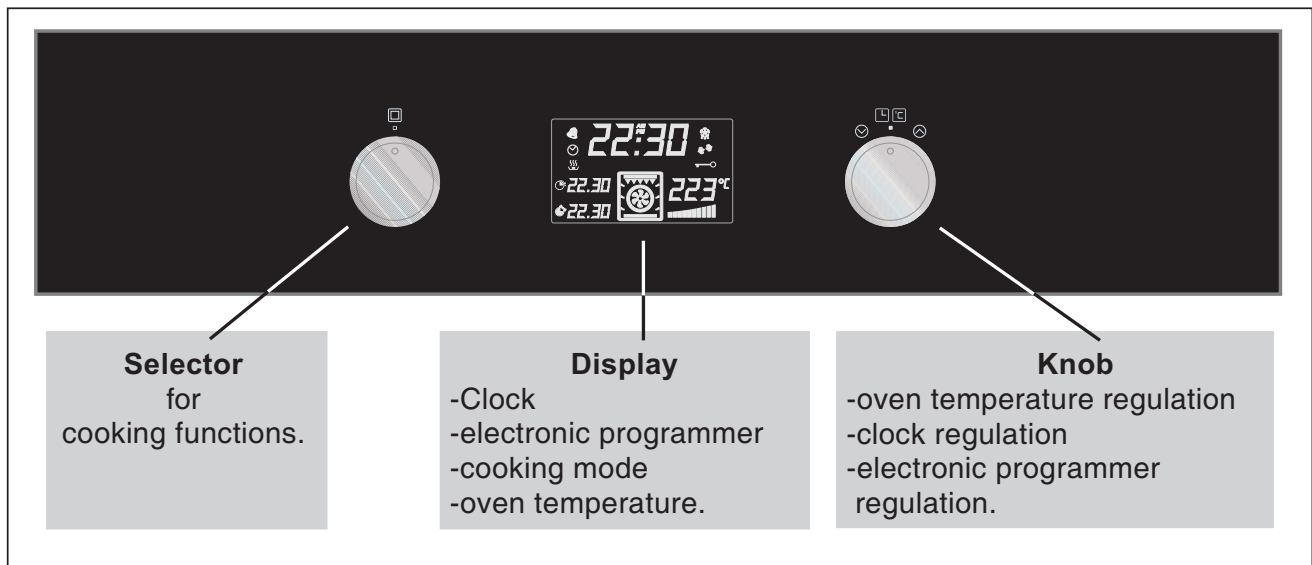
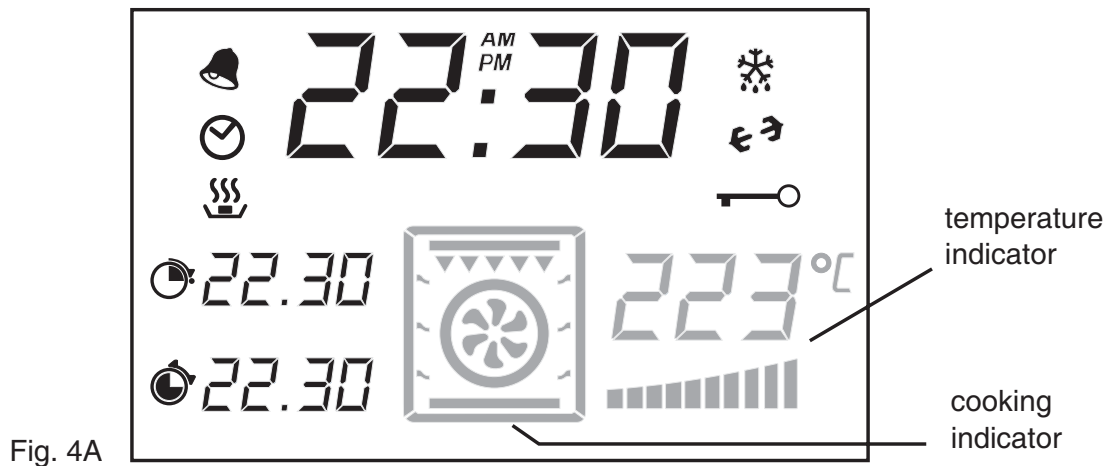

Fig. 4
Fig. 4A
The oven selector knob (fig.4) can be used to select the following functions. Note: the functions selected and the oven temperature will appear on the display (see fig. 4A).
**Important:** cooking time can only be set if the cooking function selector knob (fig.4) is turned to a cooking position!
Start of cooking is indicated by the symbol “”, which lights up on the display. At the end of the set time the oven switches off automatically, an acoustic signal sounds and the indicator “” flashes. Press the selector knob (fig.4B) to stop the acoustic signal and turn the function selector (fig.4) to “zero” to exit cooking time setting.
**Important:** cooking end time can only be set if the cooking function selector knob (fig.4) is turned to a cooking position!
To confirm the set time, press the selector knob (fig.4B) or wait for five seconds. The display will show the symbol “” with the set cooking end time and the symbol “” with the cooking time. Start of cooking is indicated by the symbol “”, which lights up on the display. At the end of the set time the oven switches off automatically, an acoustic signal sounds and the indicator “” flashes. Press the selector knob (fig.4B) to stop the acoustic signal and turn the function selector (fig.4) to “zero” to exit cooking end time setting.
Start of cooking is indicated by the symbol “”, which lights up on the display. At the end of the set time the oven switches off automatically, an acoustic signal sounds and the indicator “” flashes. Press the selector knob (fig.4B) to stop the acoustic signal and turn the function selector (fig.4) to “zero” to exit cooking time and cooking end time setting.
**Note:** adjustment can be made only when the function selector (fig.4) is set to “zero”.